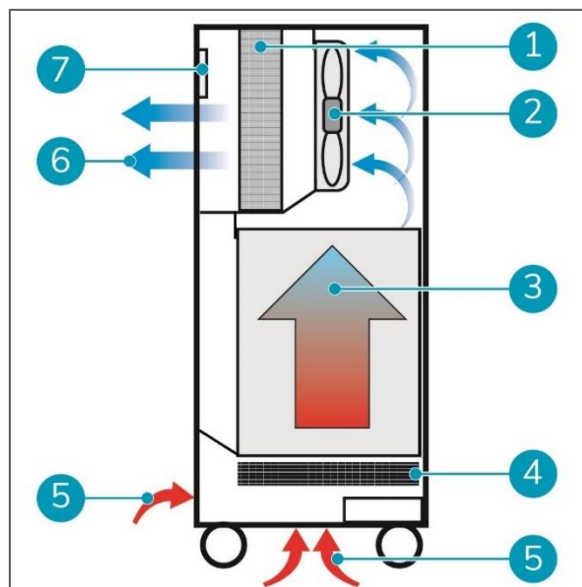

Figure 4
The polluted air enters the air inlets at the front and bottom of the unit (Figure 4, pos. 5).
The air passes through the custom designed carbon pre-filter (Figure 4, pos. 4). The carbon pre-filter filters out larger particles and heavy dust. The layers of activated carbon in the pre-filter provide basic absorption of volatile organic compounds.
The neutralization chamber (Figure 4, pos. 3) is equipped with complex and sophisticated technology (patented). A combination of UV light and other technologies, takes care of the volatile organic compounds and micro-biological contamination.
The decontaminated air finally passes through a high grade, custom made main HEPA (H14) filter (Figure 4, pos. 1). This filter ensures proper filtration of the smallest particles (even smaller than  $0,3\mu$ ). The clean air leaves the unit through the air outlet (Figure 4, pos. 6) on the front of the i-air Pro unit.